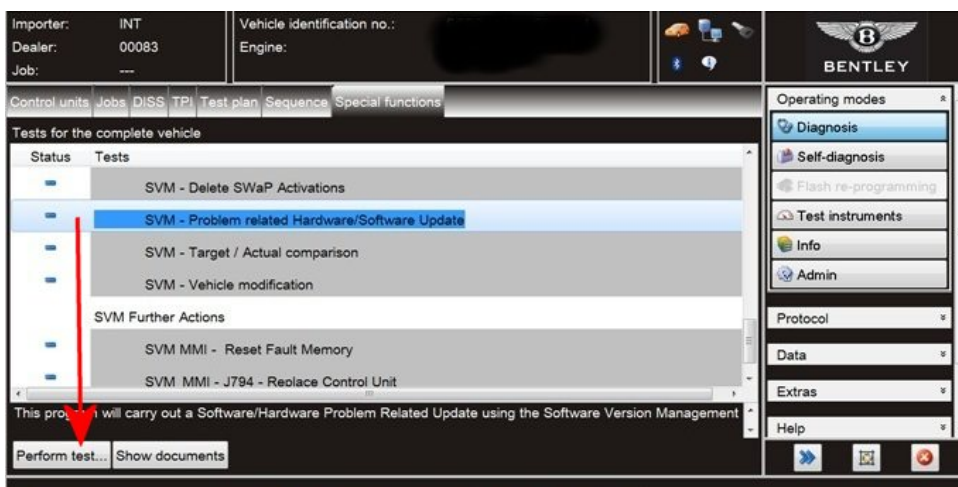

Figure 1
- Because of the highest transmission stability you **MUST** use the diagnosis interface VAS 6154 (WiFi diagnostic tool) **ONLY** in USB operation or the cable-connected VAS 5055 for the reprogramming (updating) of control units. If these units are not available, the diagnosis interface VAS 5054 (A) can also be used in USB mode
1. Select and run Guided fault finding. Within the Special functions tab select *SVM – Problem related Hardware/Software update* then select Perform test (Figure 1)